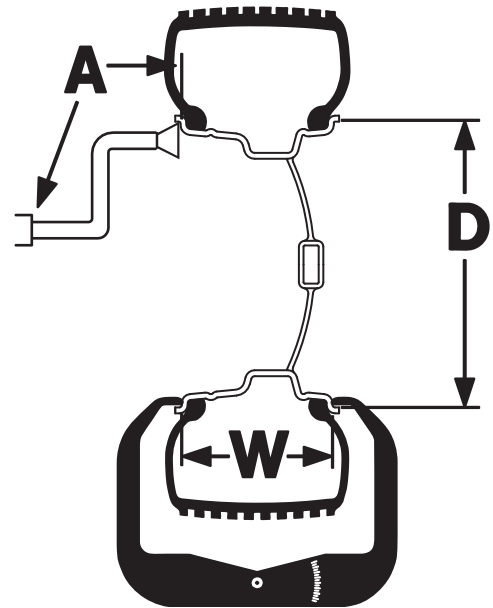

Figure 2 - A, W, and D Tire Dimensions
**Note:** Throughout this manual tire dimensions are referred to as A, W, and D, see figure 2.